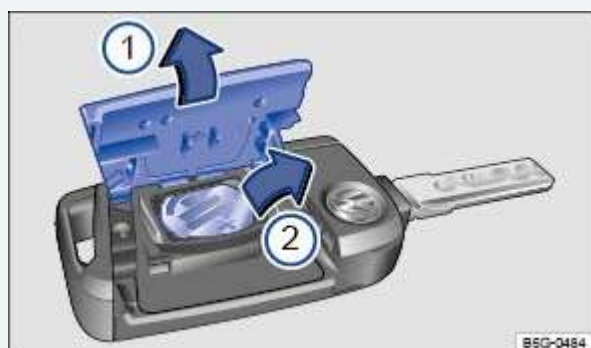

Fig. 27 Remote control vehicle key: Opening the battery compartment cover and removing the old battery.
The battery is on the back of the remote control vehicle key under a cover $\Rightarrow$ Fig. 27.
- Use a thin object to pry the battery out of the battery compartment ⇒ Fig. 27Ⓜ.